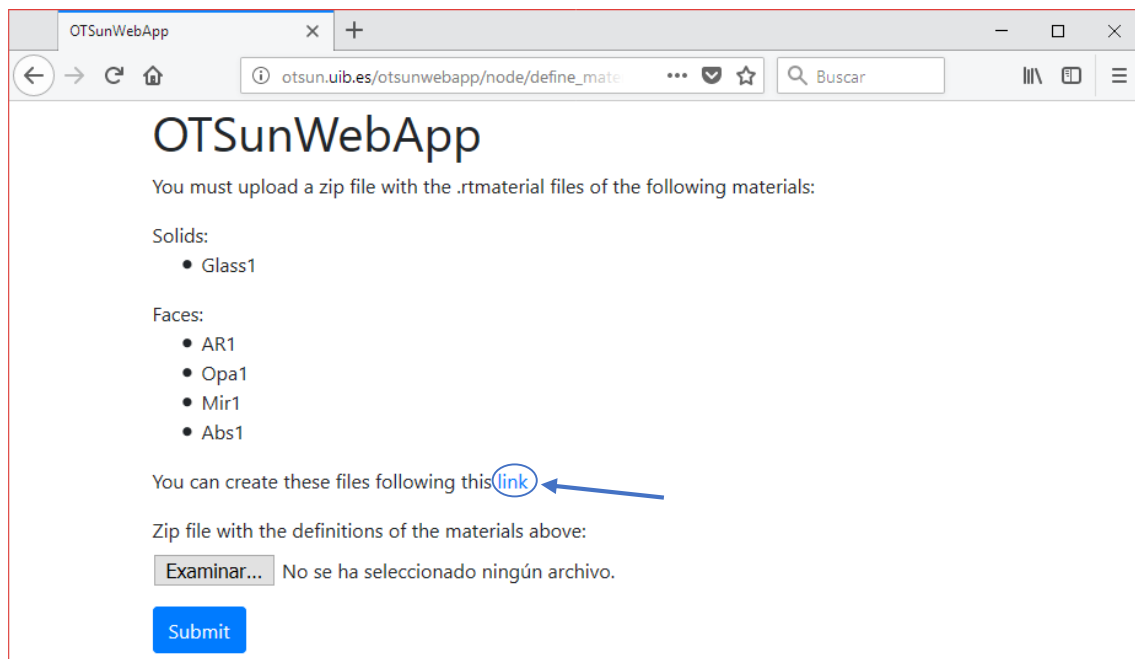

Fig. 5. Webpage for uploading material files present in the solar collector design.
On the next webpage, the objects of the geometry of the uploaded solar collector appear (see Fig. 5). These objects are:
1. Click on the hyperlink shown in Fig.5, which will redirect the user to the “*Creator of Materials*” site (<http://otsun.uib.es/otsunwebapp/material>). This link leads to the tab shown in Fig. 7.
2. Identify each of the materials with the names that appear in Fig. 5 (Glass1, AR1, etc.). The following instructions describe how to create the material file called Glass1, which is the label for the glass of the collector.